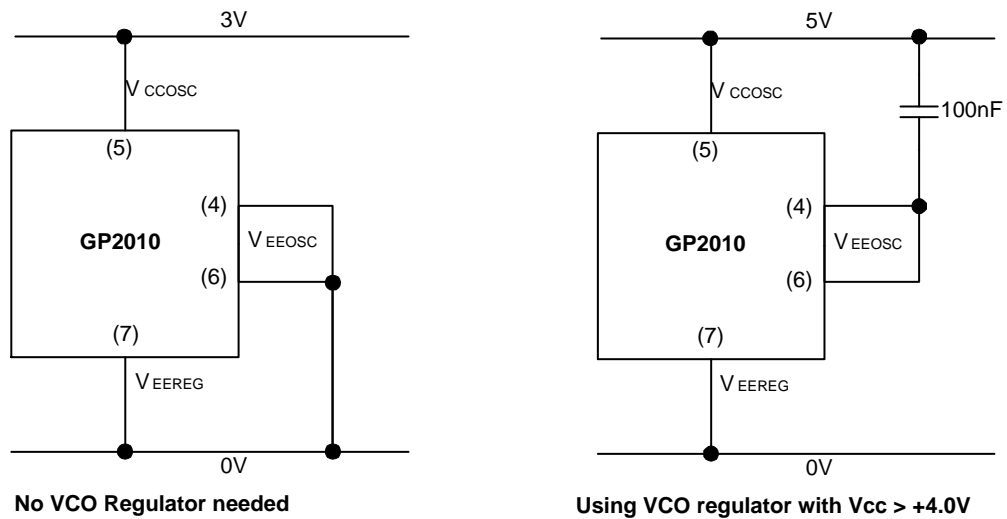

Fig. 7 VCO power-supply connections
- Both pins 4 & 6 (V_{EE} (OSC)) are connected internally. If the VCO regulator is used ($V_{CC} = +5.00V$ nominal) then both pins 4 & 6 must be left floating, with either pin de-coupled to V_{CC} (OSC) with a 100nF capacitor. In this configuration, the dc output level of the regulator can be monitored from V_{EE} (OSC), with respect to V_{CC} (OSC) - NOT 0V (V_{EE}/GND). For operation at $V_{CC} < +4.0V$, the VCO regulator cannot be used, and both V_{EE} (OSC) pins must be shorted to V_{EE} (REG) (Pin 7) - see Fig. 7.